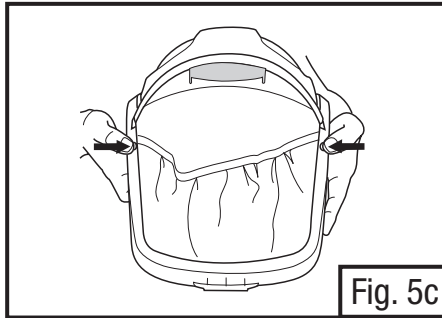
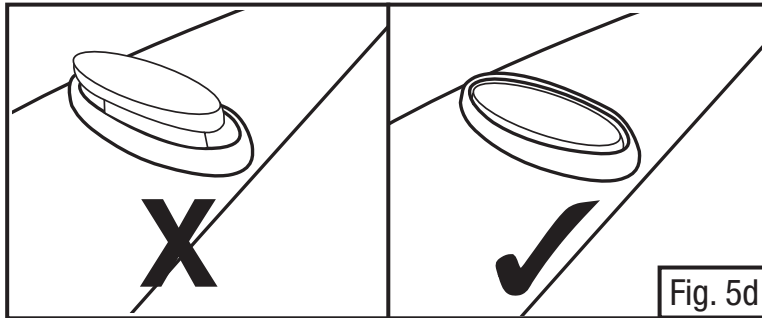

Fig. 5c
Fig. 5d
- Push visor frame buttons closed to lock visor in place. The buttons should make an audible “click” when fully seated in the frame (Fig. 5c). Ensure visor buttons are firmly secured and **flush** to the visor frame (Fig. 5d). If the buttons do not seat flush to frame, remove and reinsert.